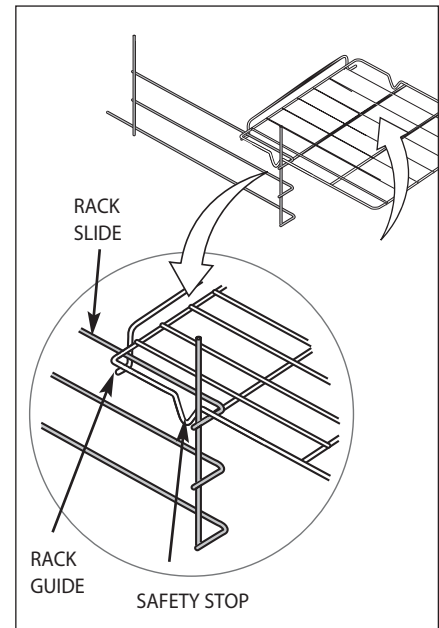

Fig. 02
2. As you slide the rack into the oven tip the front of the rack up slightly, so that the safety stops on the back of the rack, clear the rack slides (see Fig. 02). The safety stops keep the rack from sliding out of the oven when pulled forward.